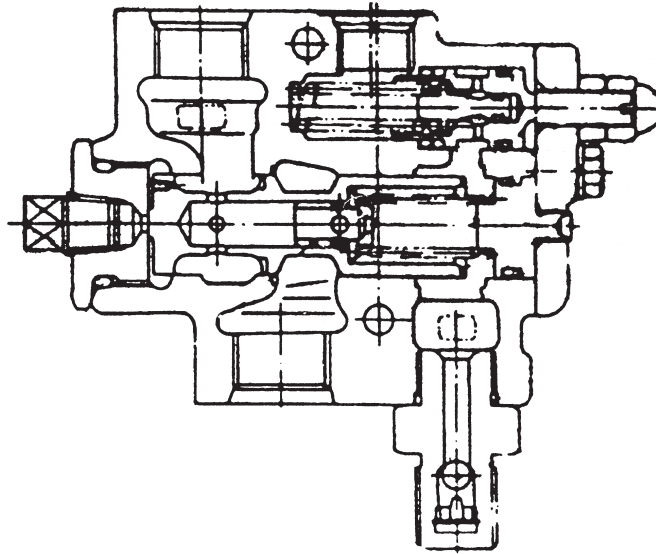

Fig.7-2 Flow Dividing Valve
7.2. Flow dividing valve (Fig.7-2)